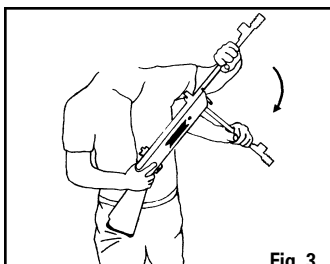

Fig. 3
- Grasp the air rifle by the pistol grip with one hand and place the other hand around the barrel (Fig. 3).